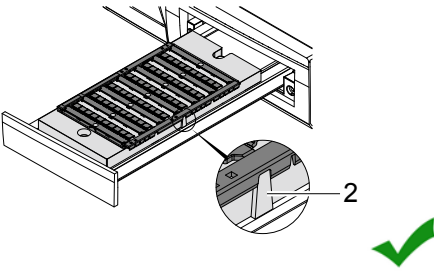
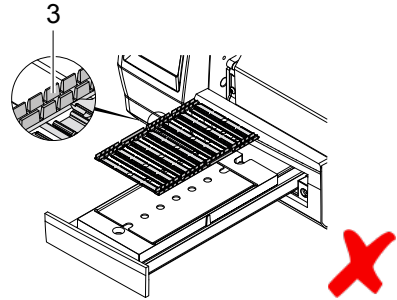

Fig. 11 UCT material - feet down
Fig. 12 UCT material - feet up
- ▶ Insert material in a way that the smaller rectangle is positioned at the rear left and the feet (Fig. 12, 3) point into the direction of the magazine. The material must click into the guides (Fig. 11, 2) of the magazine.